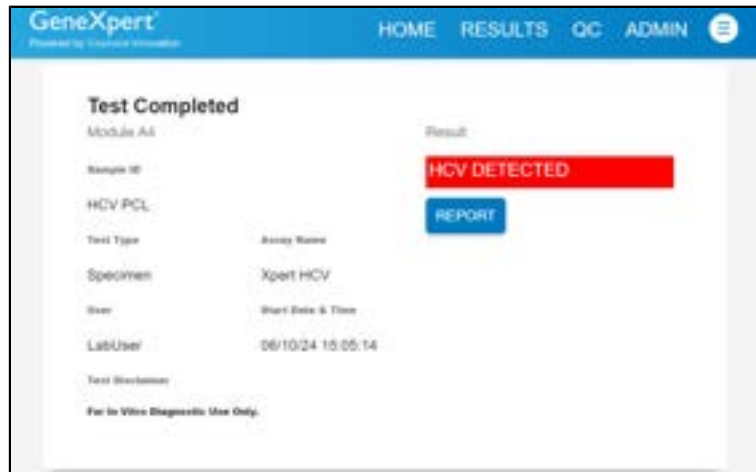
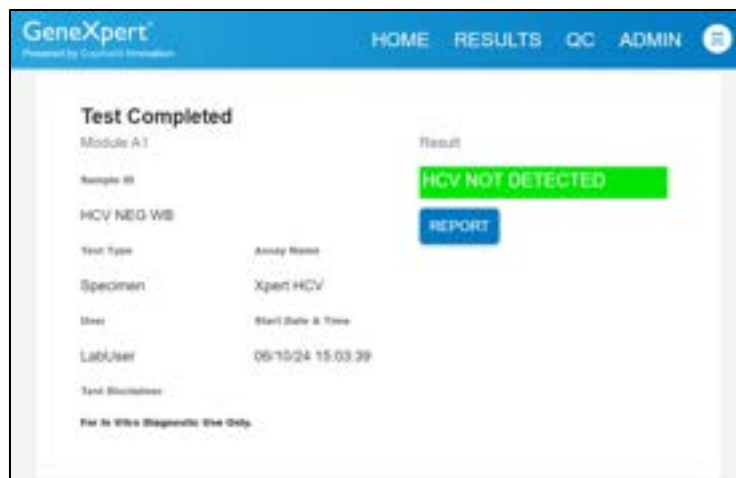

Figure 7. Test Result Screen: HCV DETECTED (Example)
Figure 8. Test Result Screen: HCV NOT DETECTED (Example)
When the test is done, the green light goes out and the module door automatically unlocks. The screen text changes to Test Completed (see Figure 7 and Figure 8).
2. Touch the desired result to open the Test Result screen (see Figures 7 and 8).
The results are interpreted automatically by the GeneXpert Xpress System from measured fluorescent signals and embedded calculation algorithms and are clearly shown in the Test Result screen for GeneXpert Xpress System (Figure 7 and Figure 8). Possible results are shown in Table 1.